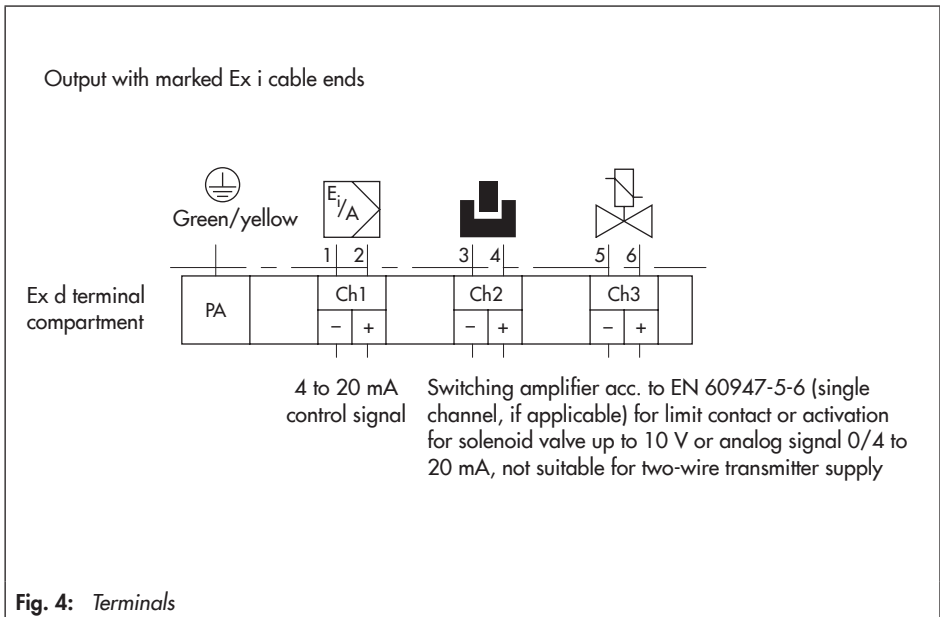
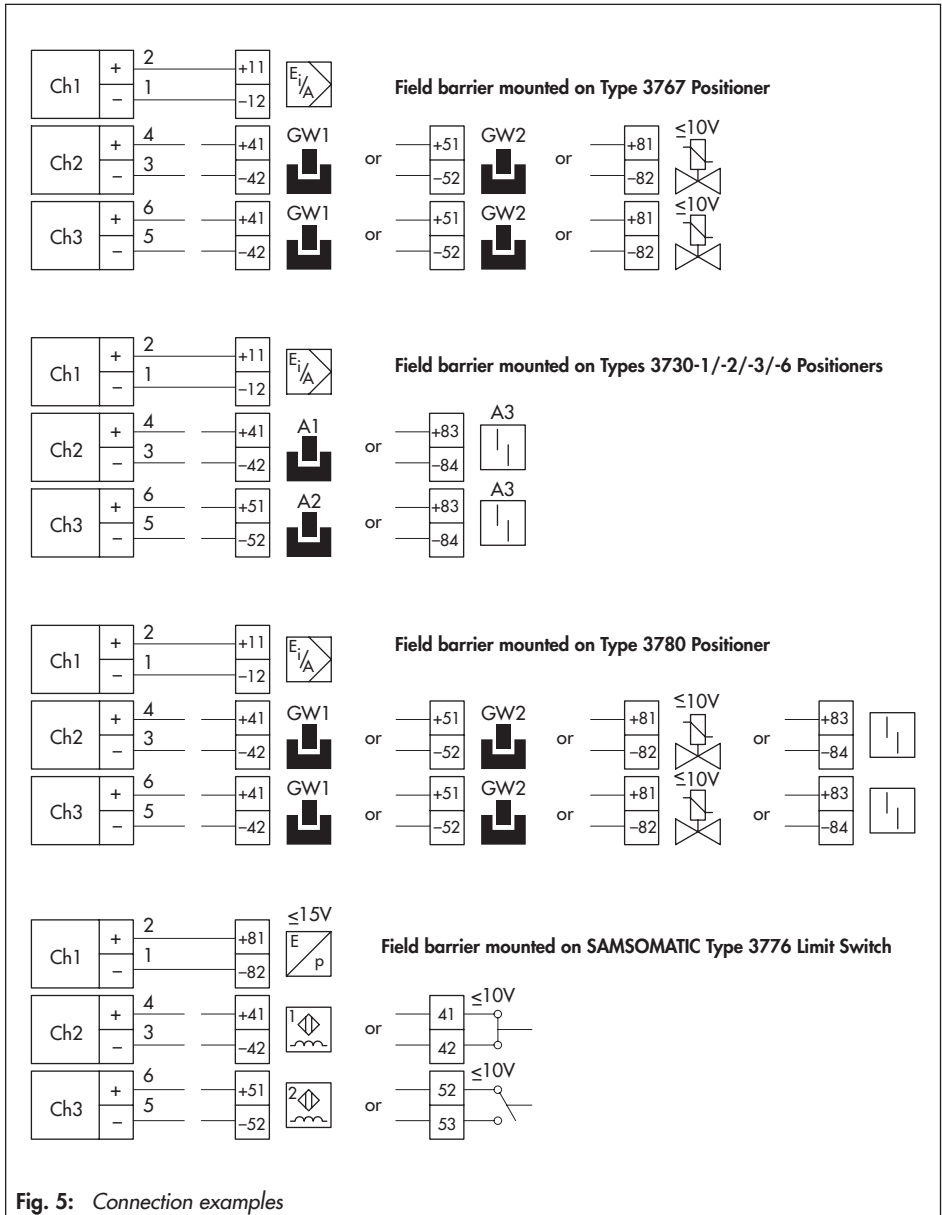

Fig. 4: Terminals
Fig. 5: Connection examples
4. Connect the free cable ends to the terminal of the positioner as shown in Fig. 4.
- Guide the free wiring ends of the field barrier from Ch1 or Ch2 and Ch3 (channel 1, 2 and 3) to their assigned terminals in the positioner (Fig. 4 and Fig. 5).